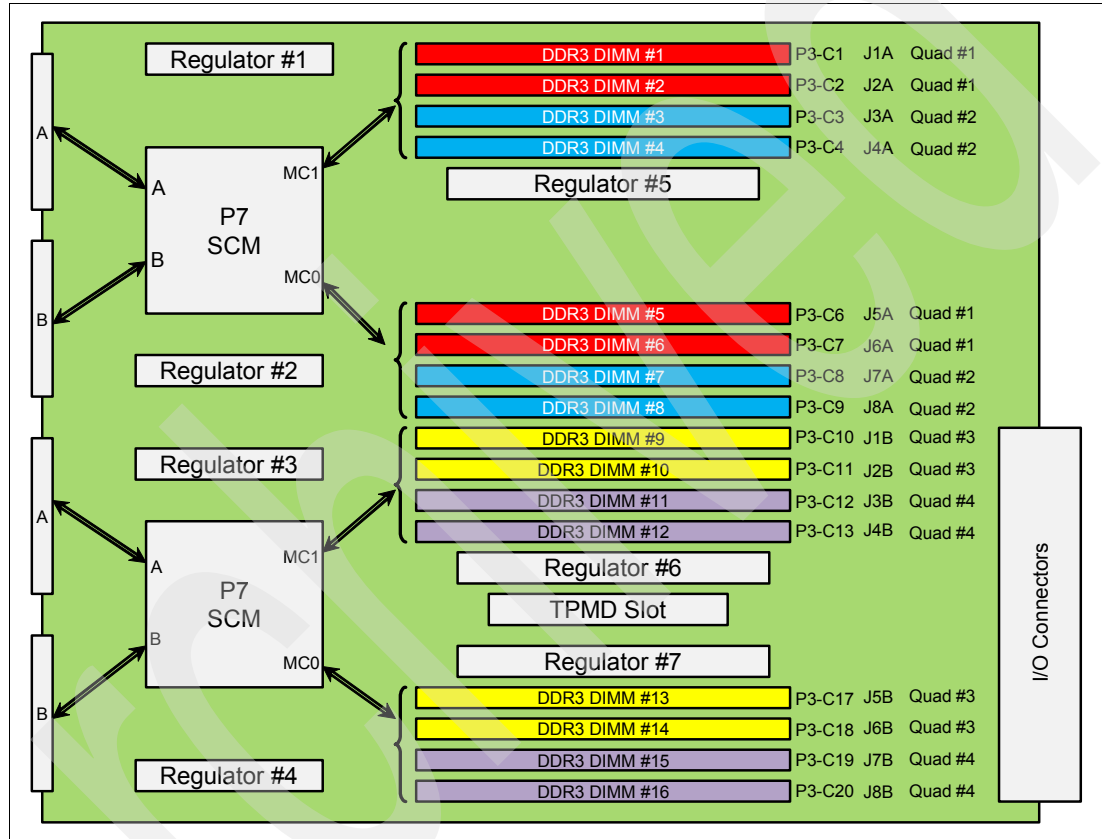

Figure 2-12 Physical memory DIMM topology for the Power 770 and Power 780 with two SCMs
Figure 2-12 shows the physical memory DIMM topology for the Power 770 and Power 780 with two single-chip-modules (SCMs).
- ▶ The DIMM-quad placement rules for a single enclosure are as follows (see Figure 2-12 on page 53 for the physical memory topology):